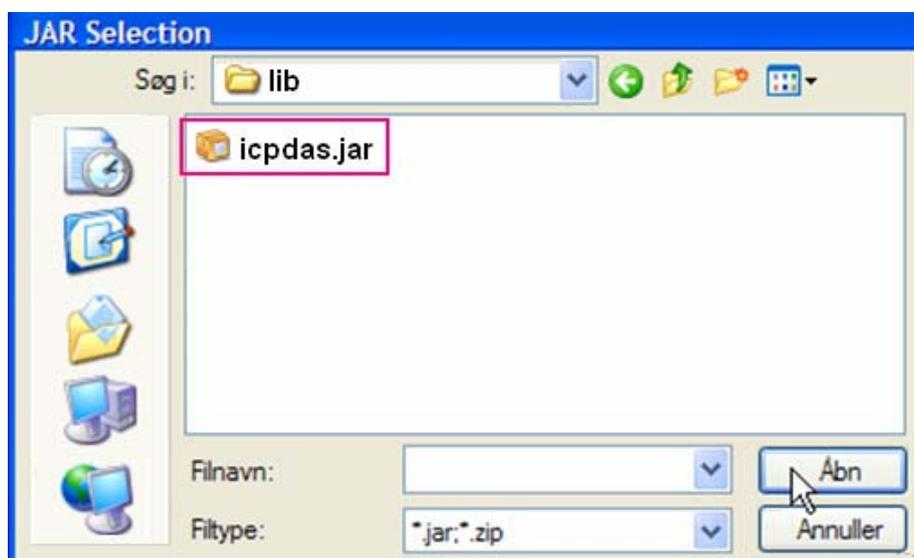

Fig.5-7
STEP 3: Download **icpdas.jar** and select the JAR file. (refer to Fig.5-7)